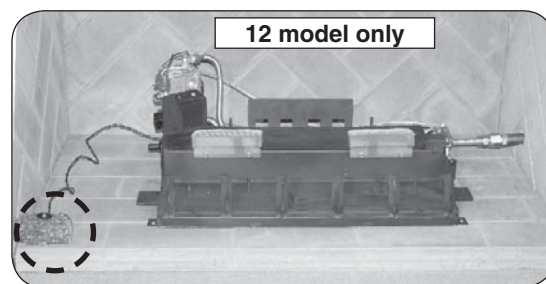

Fig. 19-2 Place wood-chip switch
3. Place the burner system in the fireplace. Center the burner in the fireplace. (Reference Fig. 19-2 for orientation.)
6. **12 models only: place the wood-chip ON/OFF switch at the front left corner of the fireplace. Place as far from the burner system as possible.** See Fig. 19-2.